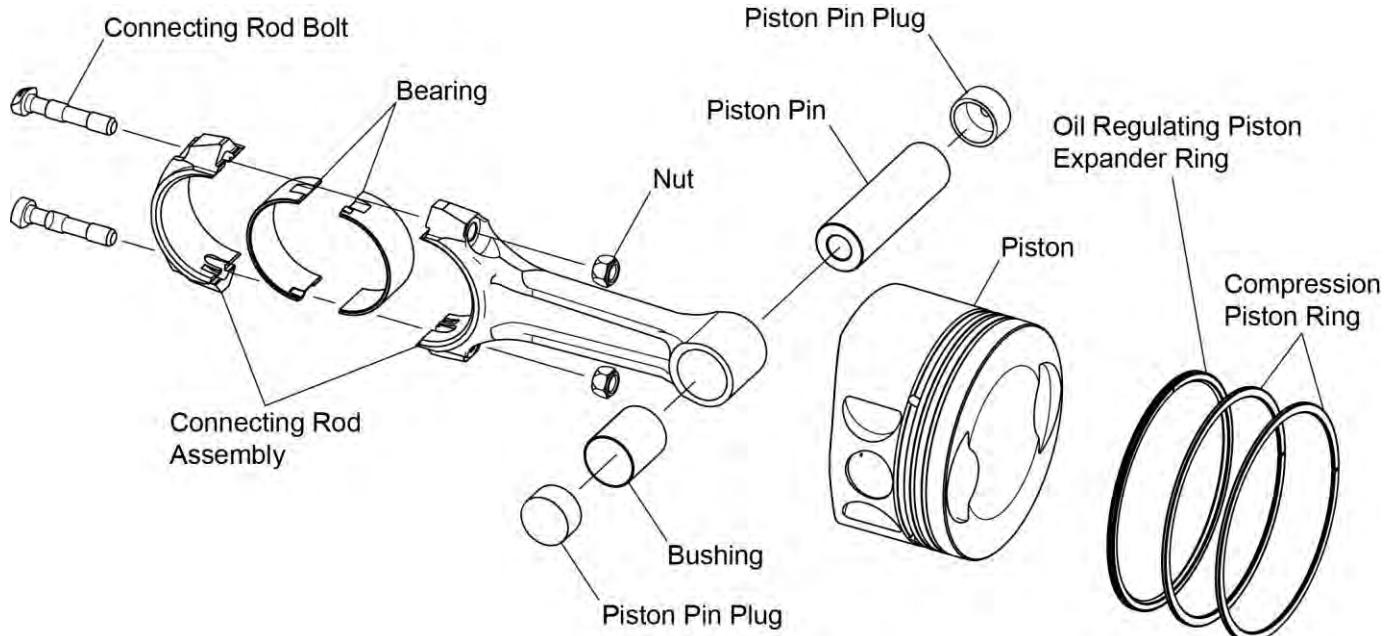

Figure 8
NOTICE: During removal of each piston pin (Figure 8), the piston will disconnect from the connecting rod.
- A. Support the piston and remove the two piston pin plugs (Figure 8) and piston pin.
- C. Start from the top down, use the Piston Ring Expander (P/N 64713) to remove the two top compression rings and the oil regulating piston expander ring (Figure 8).